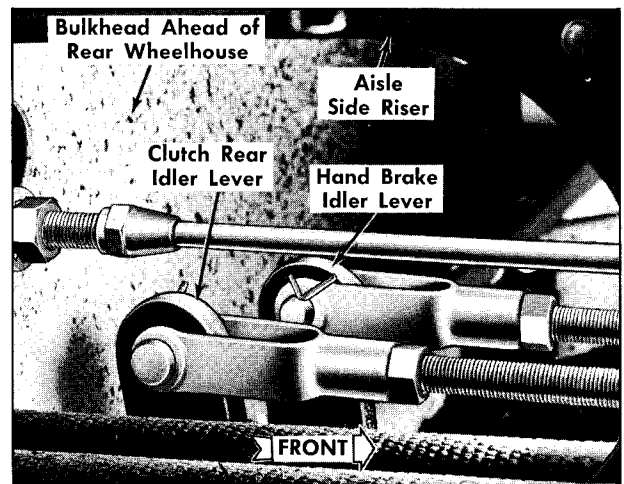

Figure 7—Clutch Control Rear Idler Lever as Seen Through Access Opening in Aisle Side Riser
1. Make sure return spring (22) is holding clutch pedal collar (2) up against floor and be sure the pedal lever-to-floor dimension is correct as explained previously in "At Front End" adjustment.
2. Dimension from center of upper clevis pin in lever (9) is 1-3/4 inches from body bulkhead (12). Should adjustment be necessary, turn adjustable clevis (6) on front end of rod to obtain above dimension.
3. Either of the two procedures (a and b) given below can be used to determine if rear intermediate lever (13) is in correct position.
a. Block the clutch pedal in fully released position with pedal pad against the floor. At engine compartment bulkhead measure distance from bulkhead to center of clevis pin in rear control rod bell crank lever (19). If this dimension is 1-5/8 inch to 1-7/8 inch, the rear intermediate lever (above fuel tank) is correctly adjusted.
b. Remove access cover from opening in aisle side riser to provide view of levers and rods as shown in figure 7. With clutch pedal released, measure distance from center of clevis pin in upper end of clutch rear idler lever to bulkhead. Correct dimension is 2-5/32 inches.